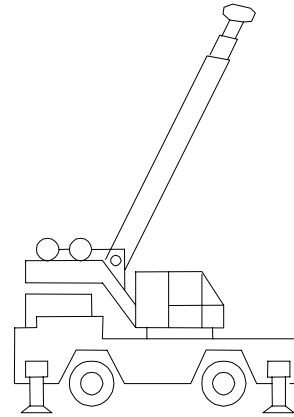

Figure 3
5. Boom up (Fig. 3) to at least 60 degrees. Verify the angle with an inclinometer.